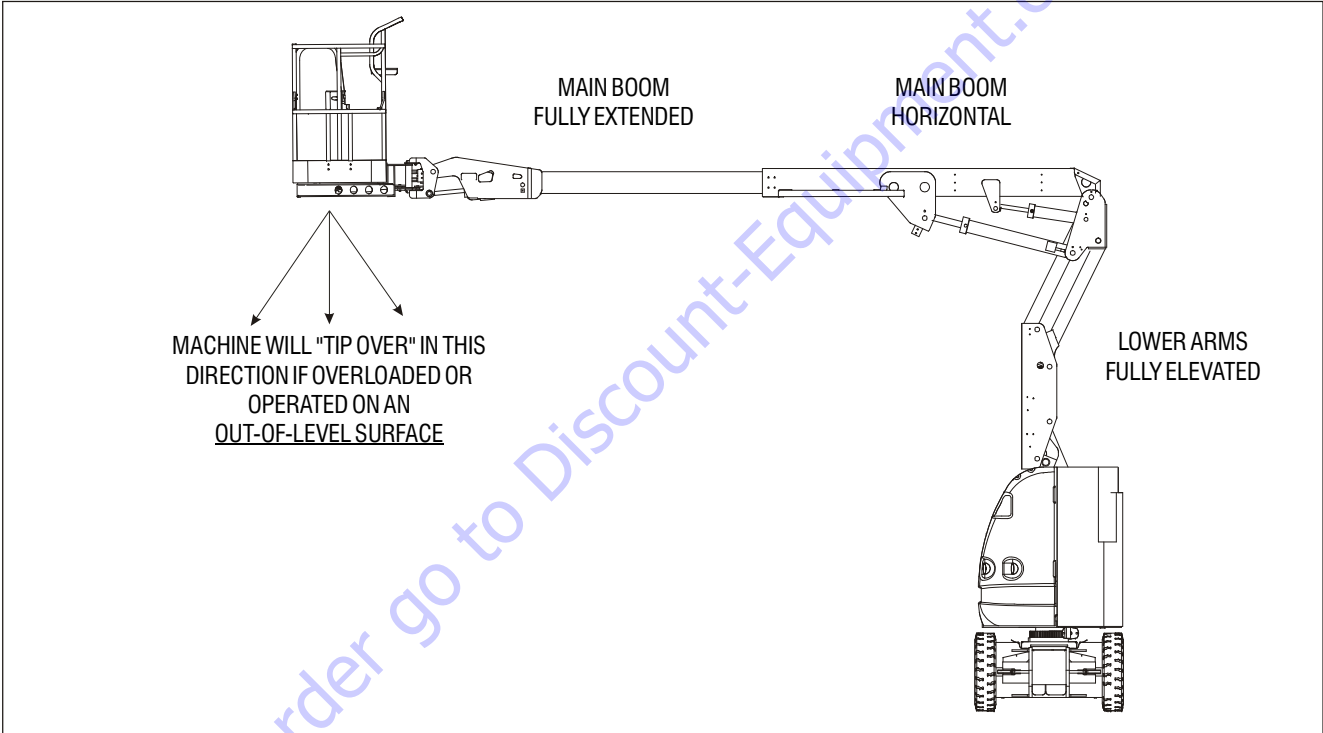
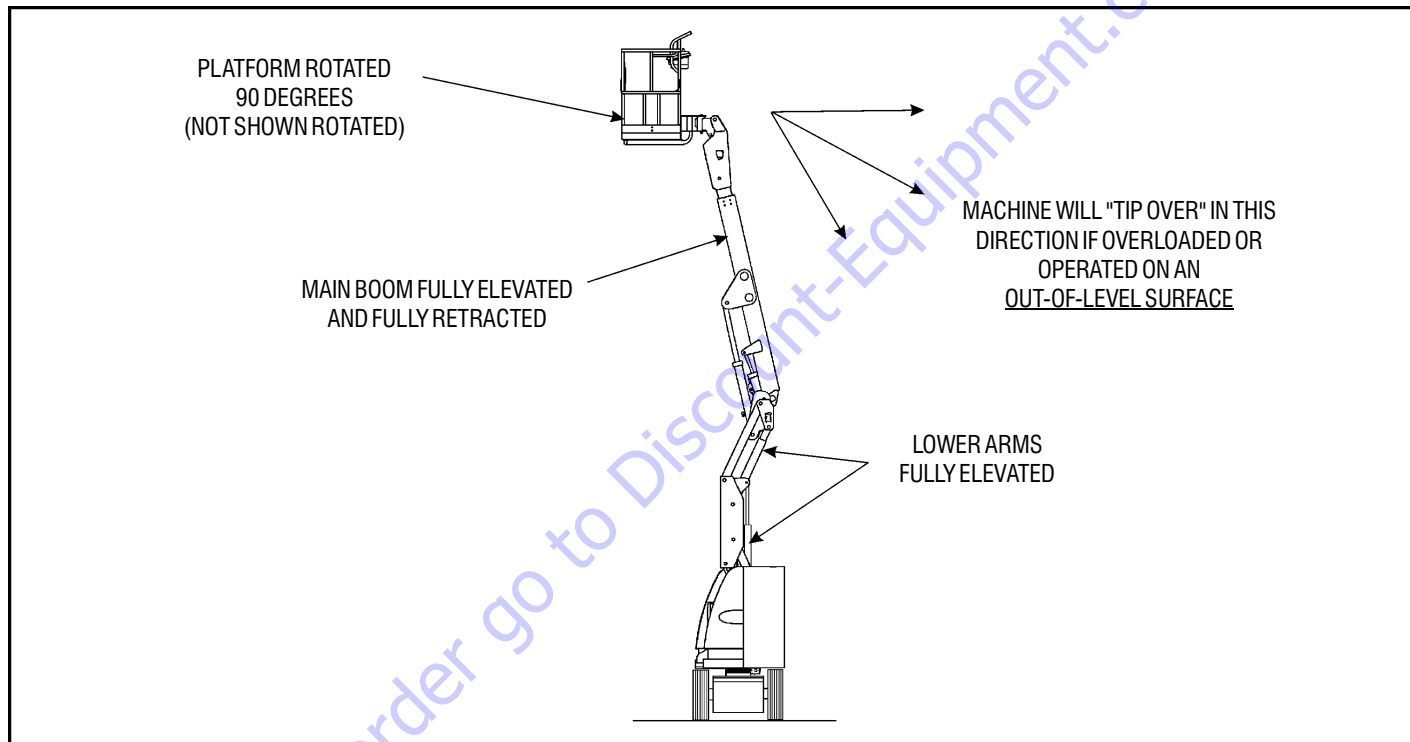

Figure 4-1. Position Of Least Forward Stability
Figure 4-2. Position Of Least Backward Stability
Machine stability is based on two (2) conditions which are called FORWARD stability and BACKWARD stability. The machine's position of least FORWARD stability is shown in Figure 4-1. and its position of least BACKWARD stability is shown in Figure 4-2.